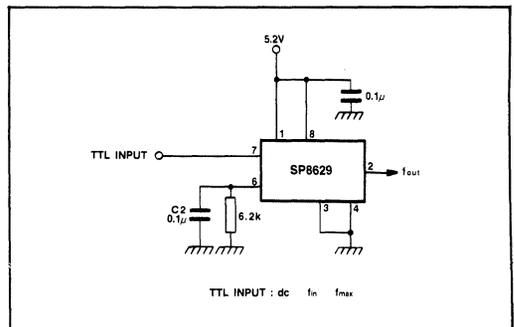

Fig.7 TTL input ( $DC < f_{in} < f_{max}$ )
4. The input waveform will normally be sinusoidal but below 10MHz correct operation depends on the slew rate of the input signal. A slew rate of  $50V/\mu s$  will enable the device to operate down to DC. The device will operate with a TTL input signal as shown in Fig. 7 and is DC coupled to the input.